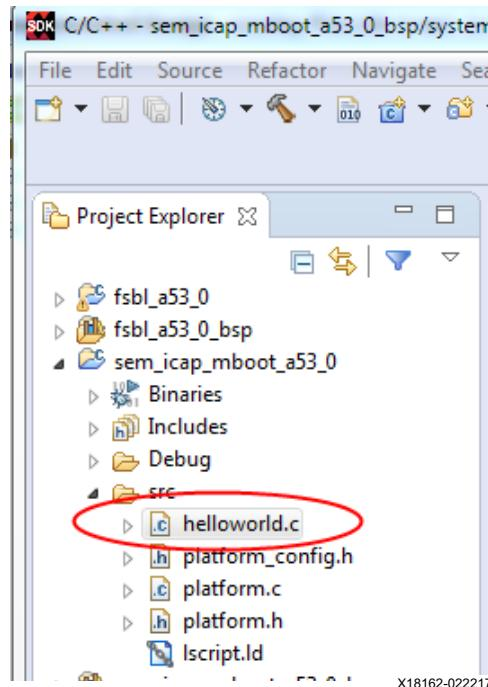

Figure 25: Design 2 - Delete helloworld.c
- c. Delete **helloworld.c** by right-clicking it, then select **Delete** in the project explorer. See Figure 25.